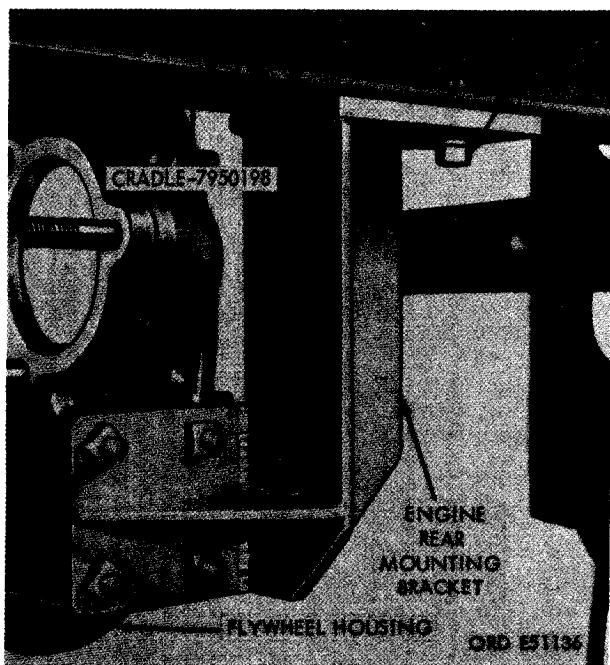

FIGURE 295. REMOVING OR INSTALLING ENGINE REAR MOUNTING BRACKETS.
- (1) Figure 295. (A) Remove eight 1/2-inch plain nuts and 1/2-inch lock washers securing left and right rear mounting brackets to engine. (B) Remove two 5/8 x 1-3/4 cap screws and 5/8-inch plain nuts securing brackets to cradle. (C) Remove both rear mounting brackets.